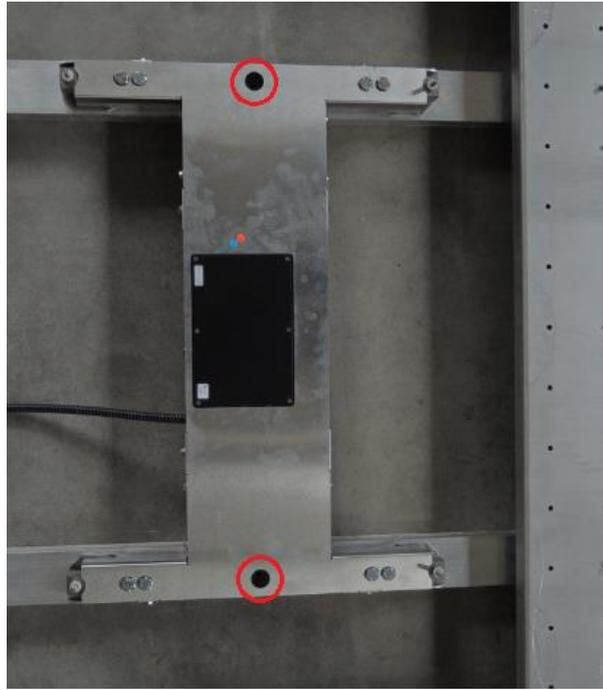

Figure 10 Placement of measurement device
2. Fix the SSG-2 scale to the center of the frame with two M8x25 screws (see Figure 10) and cover the screw heads with blanking plugs.